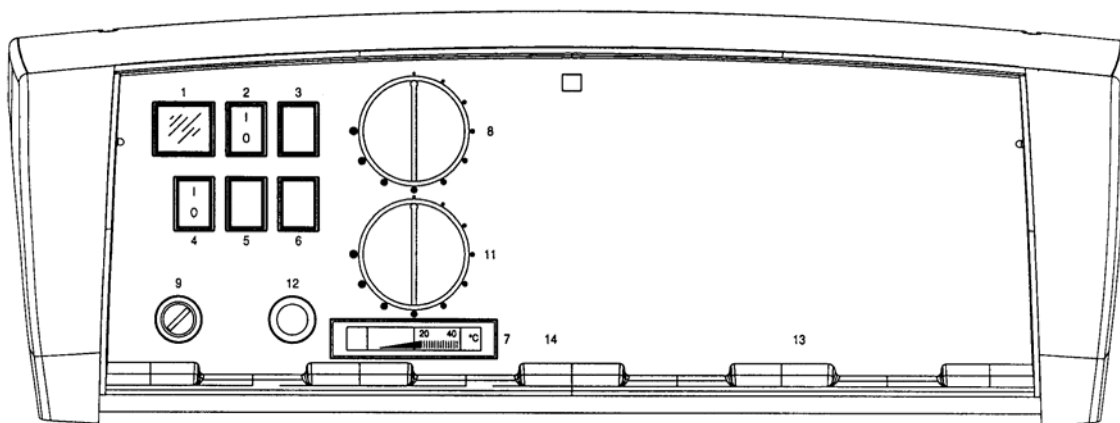

Fig. 3
3.4 TABLEAU DE COMMANDE REX/REX F/REX K/REX K F/STR (Fig. 3)